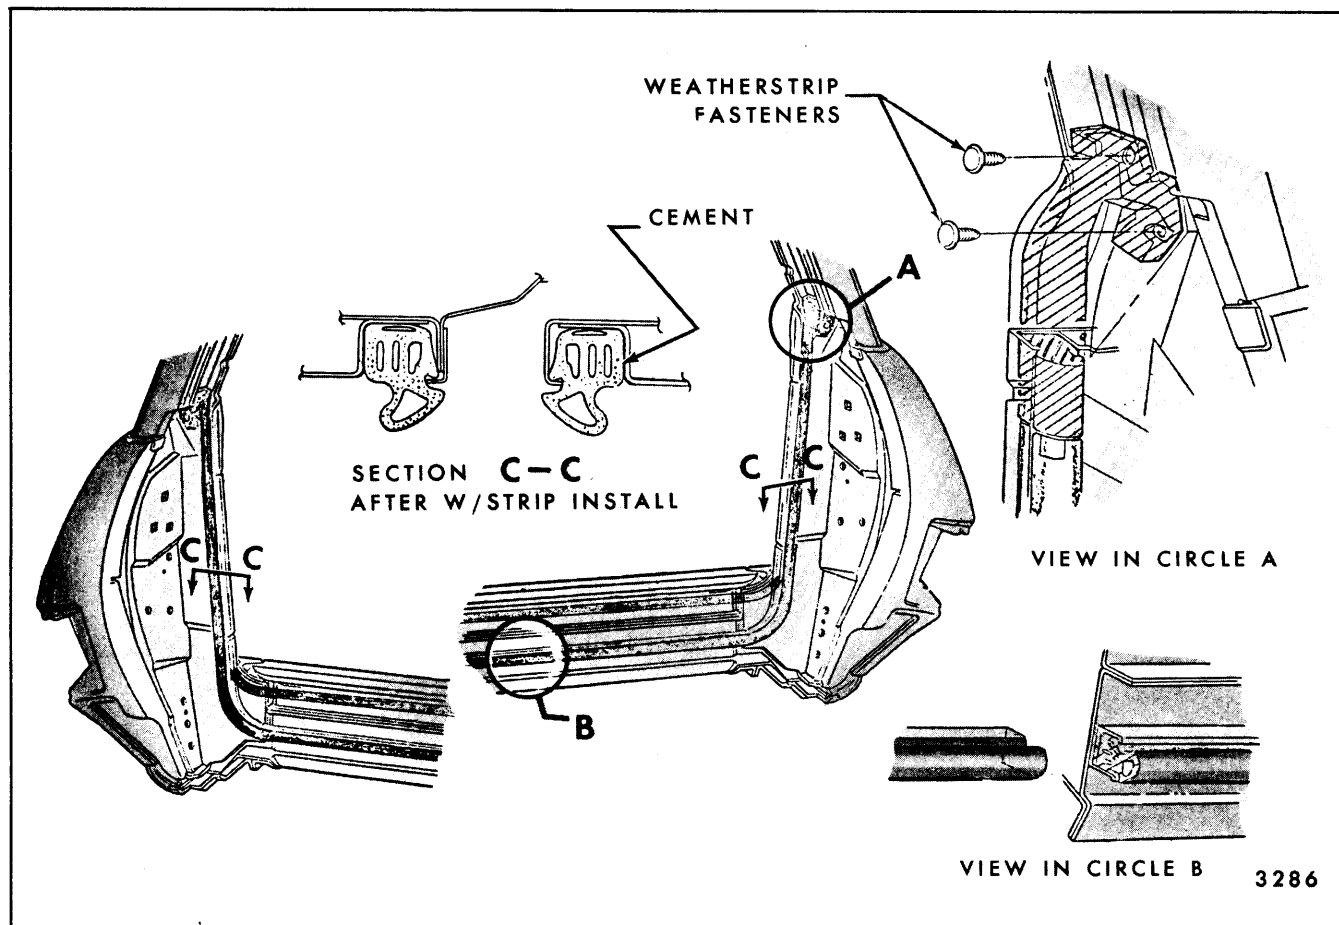

Fig. 9-32—Tail Gate Weatherstrip Installation
1. Open tail gate and remove fastener screws securing weatherstrip to right body pillars (at belt) (Fig. 9-32).